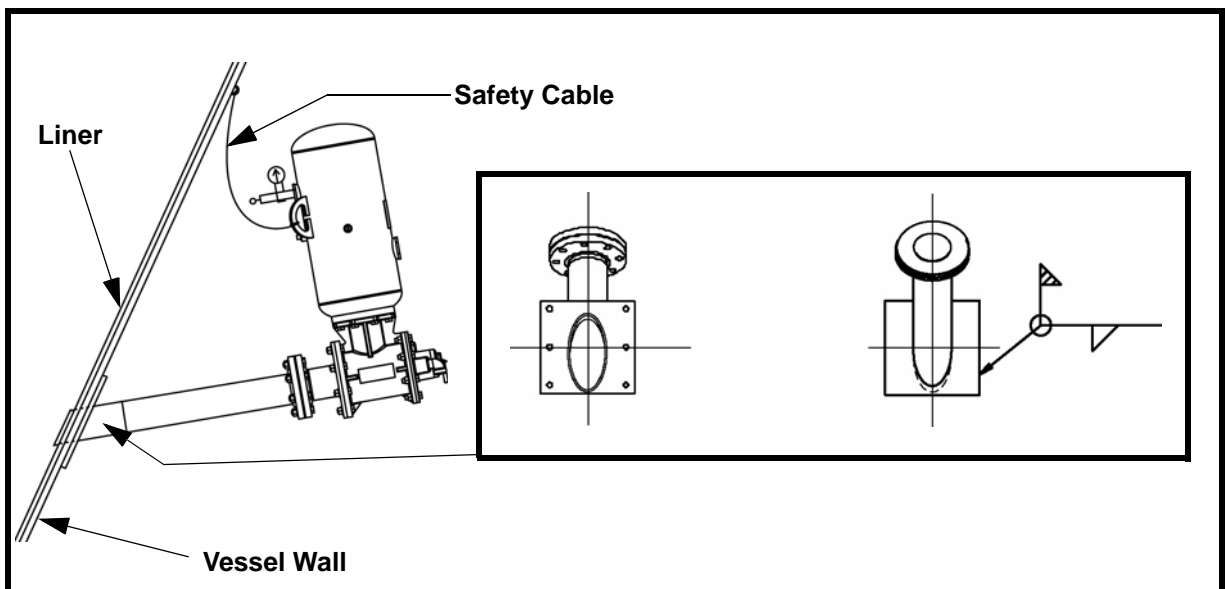

Figure 4. Installing a Drop-Through 30-Degree Mounting Plate for Vessels with Liner
- c. If vessel has a liner (Figure 4), drop-through blow-pipe must be used. The blow pipe must be extended past liner so that liner is not damaged from air cannon blast.